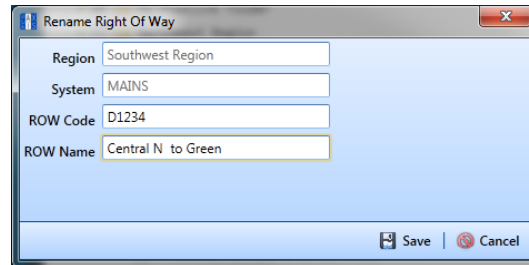

Figure 4-7. Rename Pipeline
- a Click  **Rename** to open the *Rename* dialog box (Figure 4-7). Right-clicking the selected pipeline and selecting *Rename* in the shortcut menu also opens the dialog box.